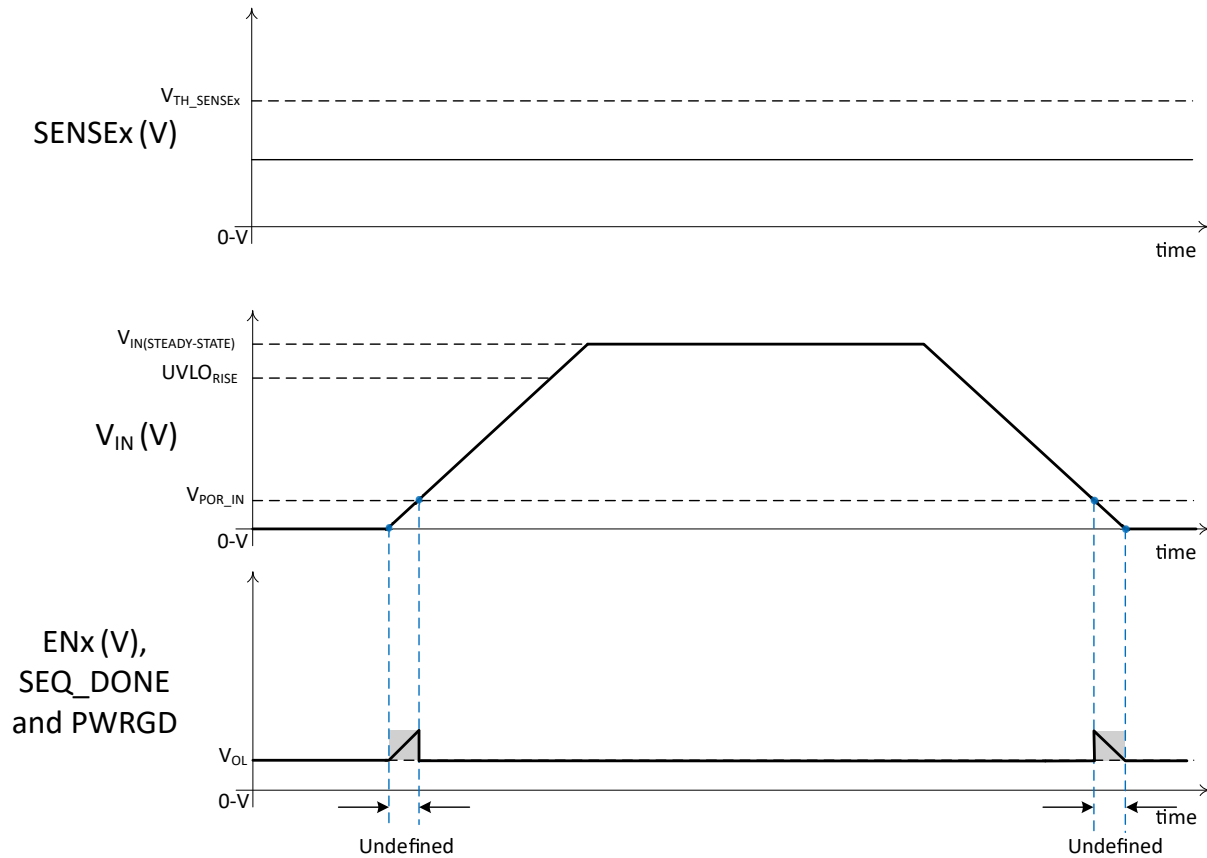

Figure 7-1. Outputs in a Valid Low State After $V_{IN} > V_{IN-MIN}$
Figure 7-1 shows the EN_x outputs relationship to a rising input voltage (V_{IN}). As can be observed, the EN_x are undefined when V_{IN} is lower than $V_{\text{POR_IN}}$ (typically 1.41V). During this time the outputs can be any value from 0V to V_{IN} . In this case, the input voltages to all undervoltage (UV) input comparators (SENSE_x) are below the $V_{\text{TH_SENSE}_x}$ (599mV). For this reason (in conjunction with waiting for a rising edge on UP), the EN_x, SEQ_DONE and PWRGD stays low after V_{IN} rises above $UVLO_{\text{RISE}}$ (typically 2.79V).